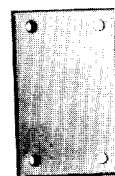

Fig. 25 Track Spacer
- (d) Install one, two, or three track spacers (Fig. 25), as necessary, with four (4) .25" x .125" (6.35mm x 31.75mm) self tapping screws behind both track assemblies.
- (e) With each track at necessary and equal height, tighten the eight (8) .25" (6.35mm) mounting screws in each track assembly.